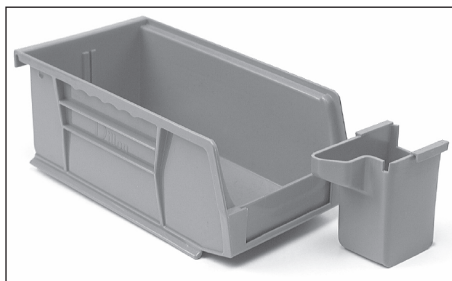
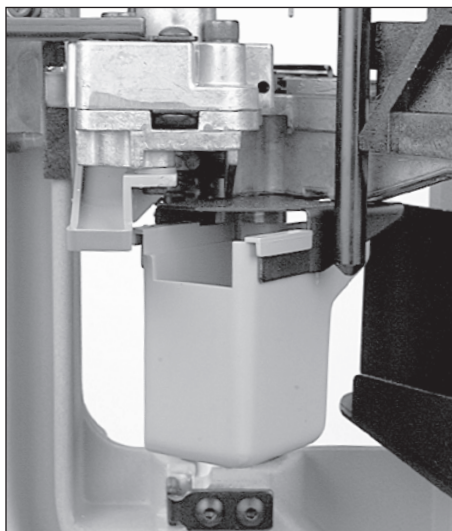

FIG 6
FIG 7
B. Installation of the Spent Primer Cup FIG 7 and Cartridge Bin FIG 6: